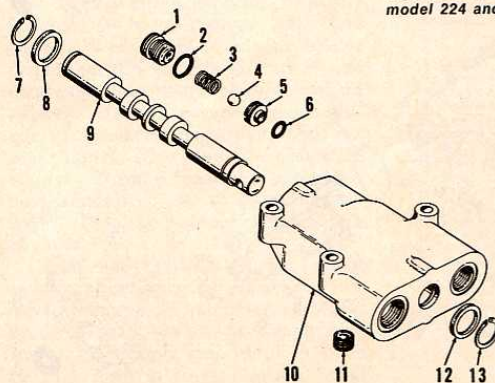

Fig. C8—Exploded view of early Dukes single spool control valve used on early model 444 tractors.
To check drive relief valve pressure, close the load valve on tester and note the pressure gage reading. The relief valve should open between 2050-2150 psi. To increase pressure relief setting, turn adjusting plug (1—Fig. C8 or 8—Fig. C9) inward as required. Re-check control valve for internal leakage. If control valve leakage still exceeds $\frac{1}{2}$ gpm, valve body and spool are excessively worn or valve body is cracked and assembly must be renewed.
Early model 444 tractors were equipped with a single spool Dukes drive control valve (Fig. C8). Late model 444, model 224 equipped with
OVERHAUL EARLY CONTROL VALVE. To disassemble the single spool control valve, refer to Fig. C8 and remove snap rings (7 and 13) from ends of spool (9), then withdraw spool from valve body (10). Remove quad rings at both ends of spool bore in body. Unscrew relief spring adjusting plug (1) and remove spring (3) and ball (4). Unscrew ball seat (5) and remove "O" ring (6).